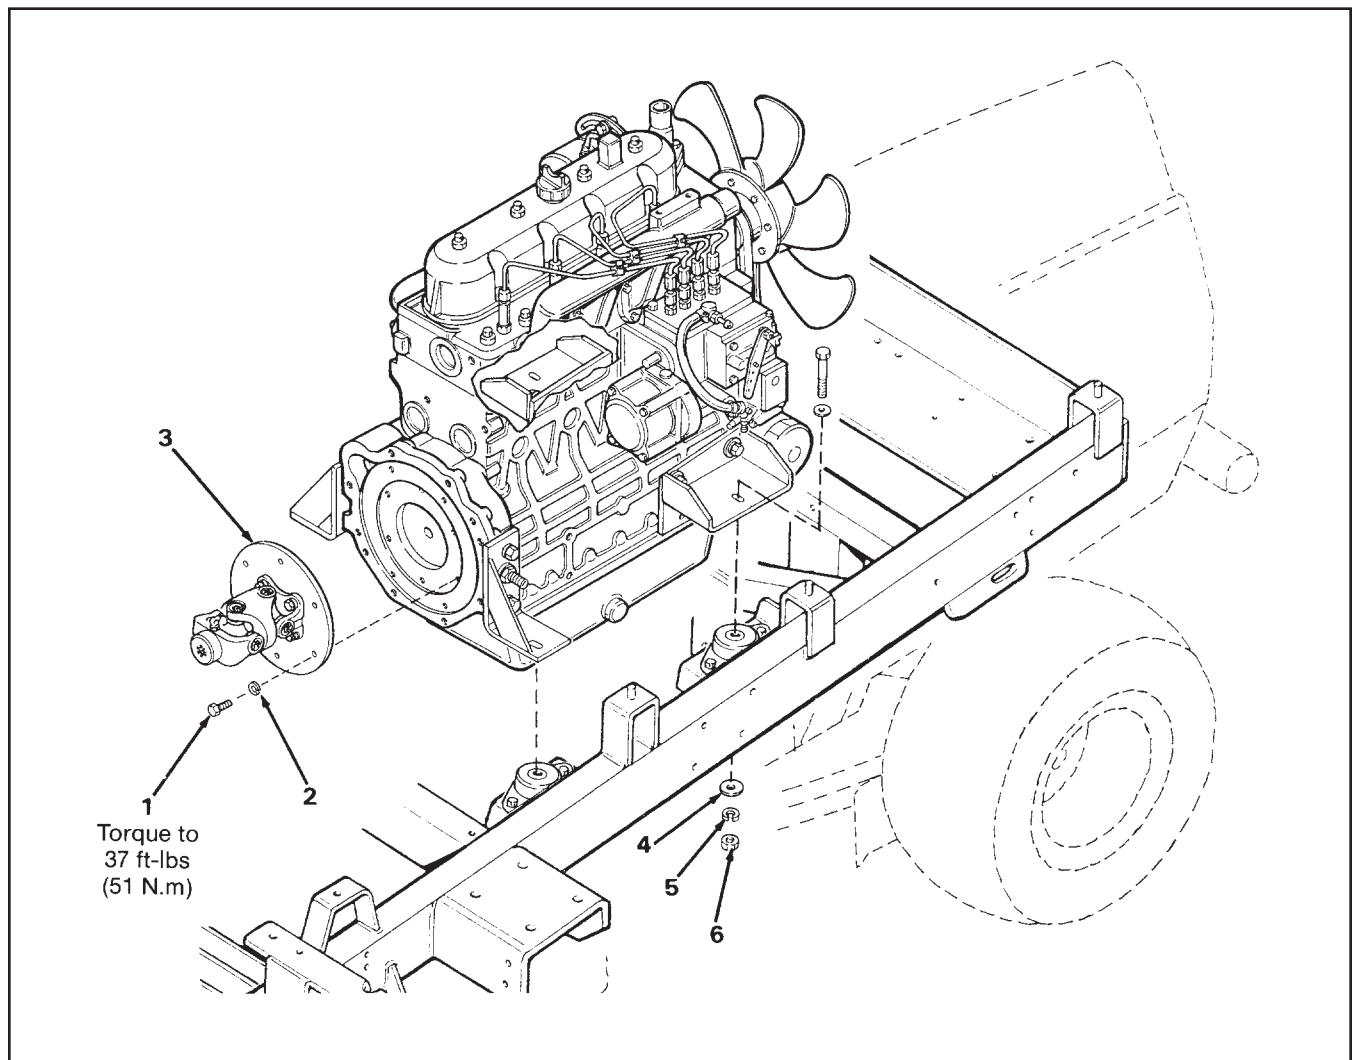

Figure 3D-8. Engine Installation
2. Line up holes in hydrostatic pump drive plate with engine flywheel. Install bolts (1) and lockwashers (2). Torque to 37 ft-lbs. (51 N.m).
3. Slide engine forward, align and loosely attach all bolts (4), lockwashers (5) and flat washers (6) that secure the engine to the frame.
5. Tighten mounting bolts (4) after all have been installed.
6. Connect and adjust the throttle control (see Section 2 of this manual and Figure 3D-6).